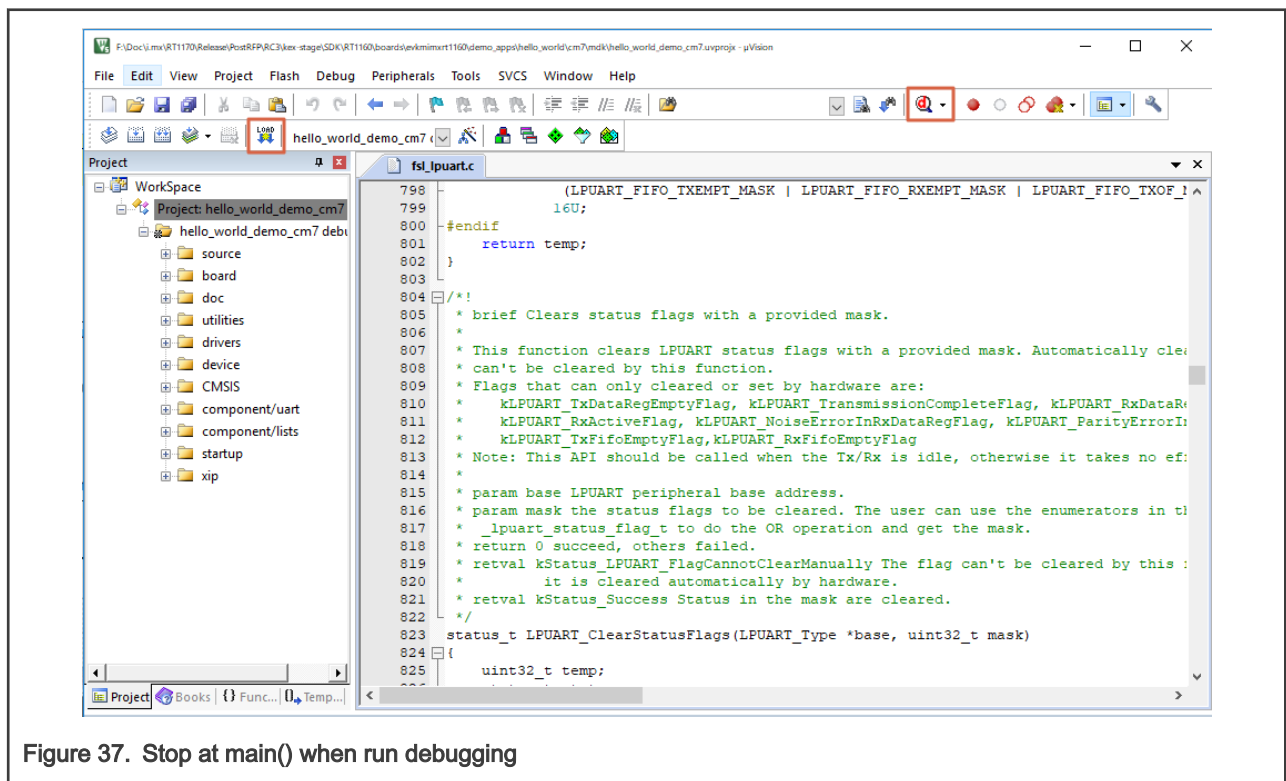

Figure 37. Stop at main() when run debugging
- To debug the application, click **load** or press the **F8** key for flexspi target which need to download the program to flash memory. Then, click the **Start/Stop Debug Session** button, highlighted in red in Figure 37. If using **J-Link** as the debugger, click **Project option > Debug > Settings > Debug > Port**, and select **SW**.